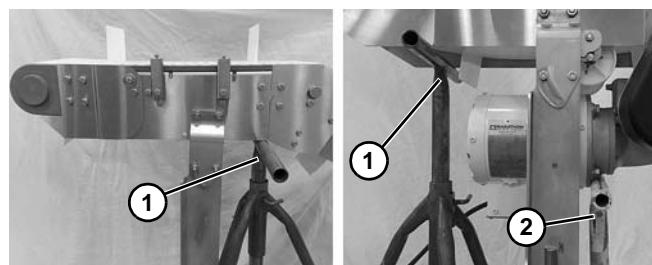

Figure 8
1. Place temporary support stands (**Figure 8, item 1**) at both ends of the conveyor. Place an additional support stand (**Figure 8, item 2**) under the drive motor, if equipped. See WARNING.